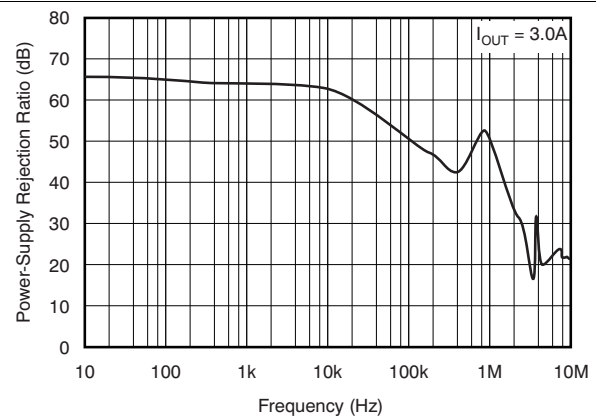
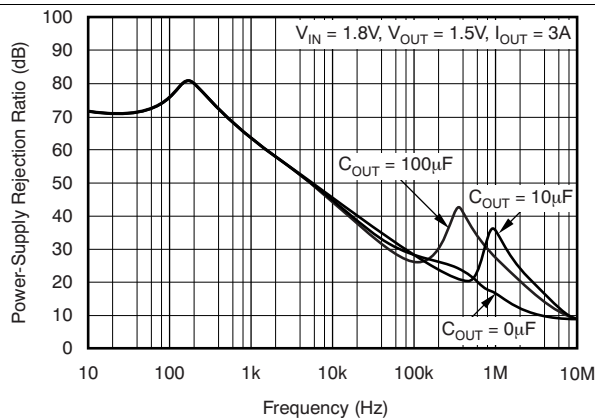

Figure 8. V_{BIAS} PSRR vs Frequency
Figure 11. V_{IN} PSRR vs Frequency
(5) See Figure 8 to Figure 11 for PSRR at different conditions.